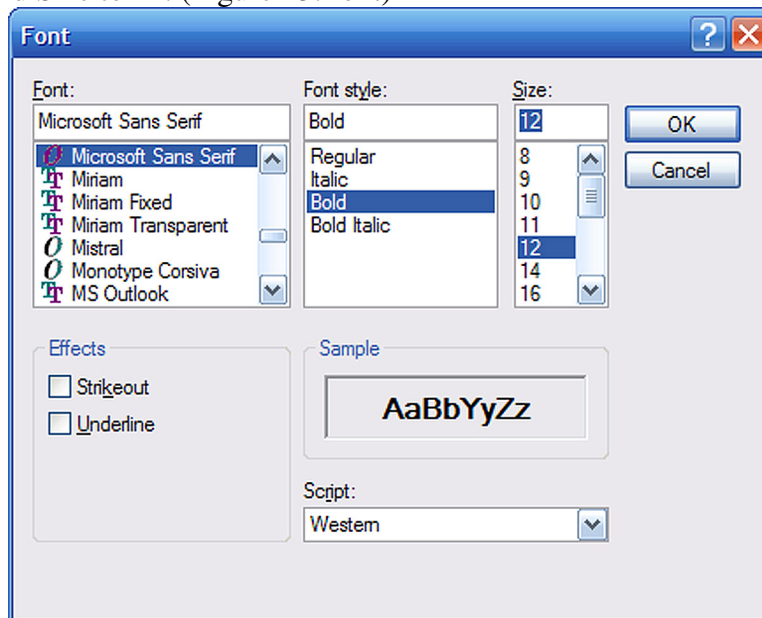

Figure 13: Font
- Select label1 and in the Properties Window choose Font. Change Font Style to Bold and Size to 12. (Figure 13:Font)